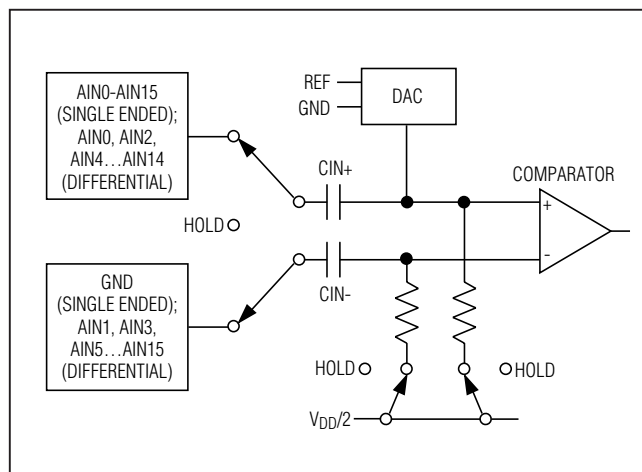

Figure 3. Equivalent Input Circuit
**Note 6:** See Figure 3 (Input Equivalent Circuit) and the *Sampling Error vs. Source Impedance* curve in the *Typical Operating Characteristics* section.
The MAX1026/MAX1028/MAX1030 use a fully differential ADC for all conversions. The analog inputs can be configured for either differential or single-ended conversions by writing to the setup register (see Table 3). Single-ended conversions are internally referenced to GND (see Figure 3).
The equivalent circuit of Figure 3 shows the MAX1026/MAX1028/MAX1030's input architecture. In track mode, a positive input capacitor is connected to AIN0-AIN15 in single-ended mode (and AIN0, AIN2, AIN4...AIN14 in differential mode). A negative input capacitor is connected to GND in single-ended mode (or AIN1, AIN3, AIN5...AIN15 in differential mode). For external track-and-hold timing, use clock mode 01. After the T/H enters hold mode, the difference between the sampled positive and negative input voltages is converted. The time required for the T/H to acquire an input signal is determined by how quickly its input capacitance is charged. If the input signal's source impedance is high, the required acquisition time lengthens. The acquisition time,  $t_{ACQ}$ , is the maximum time